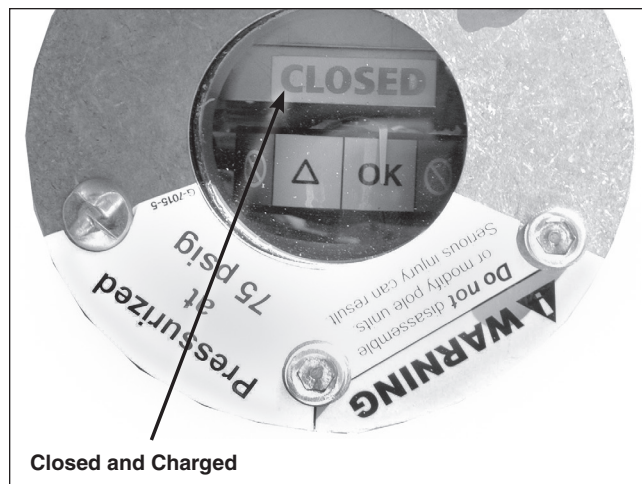

Figure 17. Check that the indicator is in the Closed and Charged position.
STEP 10. Check that the pole-unit position indicator is in the **Closed and Charged** position. See Figure 17. If the indicator still shows the **Open and Discharged** position, repeat Steps 7 through 9 on pages 10 through 12. The indicator is only accurate when the charging tool is removed from the pole-unit.